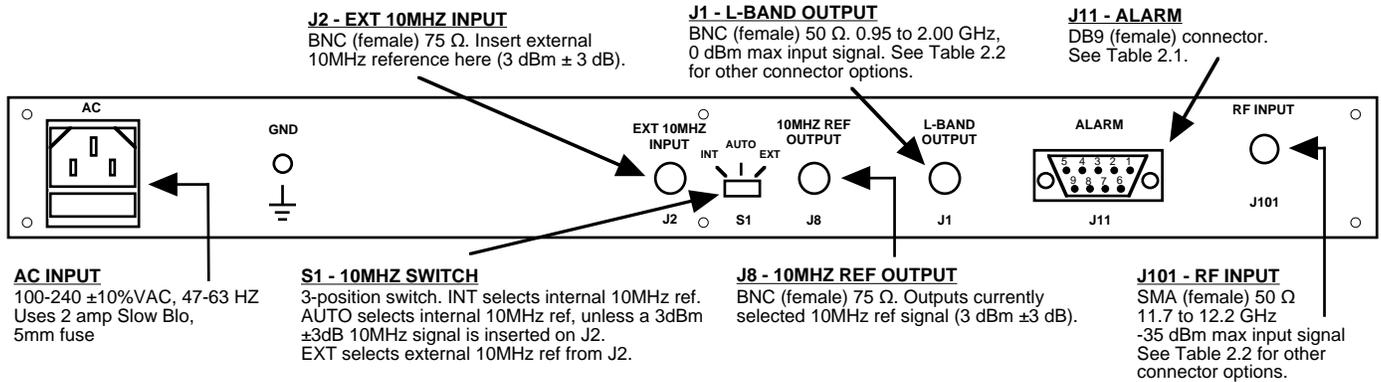

FIGURE 2.1 2116-116 Rear Panel I/O's
Figure 2.1 shows the input and output connectors on the rear panel.
1. Connect a -55 dBm to -35 dBm signal RF INPUT, J101 (Figure 2.1).
5. Select either INT (for internal 10MHz ref), AUTO (for internal 10MHz ref UNLESS an external 10MHz, 3 dBm signal is connected to J2), or EXT (for external 10MHz, 3 dBm ref that is inserted at J2) on rear panel switch S1 (Figure 2.1).
7. Check that a 10MHz, 3 dBm \pm 3 dB signal is present at the 10MHZ REF OUTPUT (J8) (Figure 2.1).